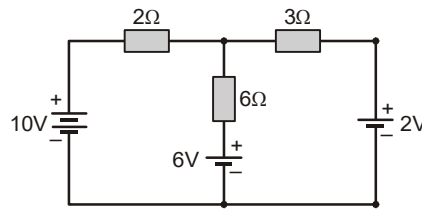

Fig.1.109: Given circuit
2. Using thevenin theorem find the current in 3Ω resistor in Fig.1.109. (Ans. 1.556A)